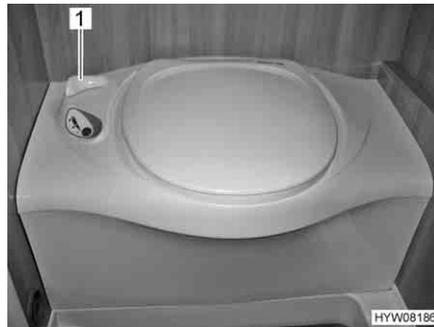

Fig. 170 Thetford toilet
- Before flushing open the sliding trap of the Thetford toilet. To do this, turn the slide lever (Fig. 170,1) in an anticlockwise direction.
- After flushing close the sliding trap. To do this turn the slide lever (Fig. 170,1) in a clockwise direction.